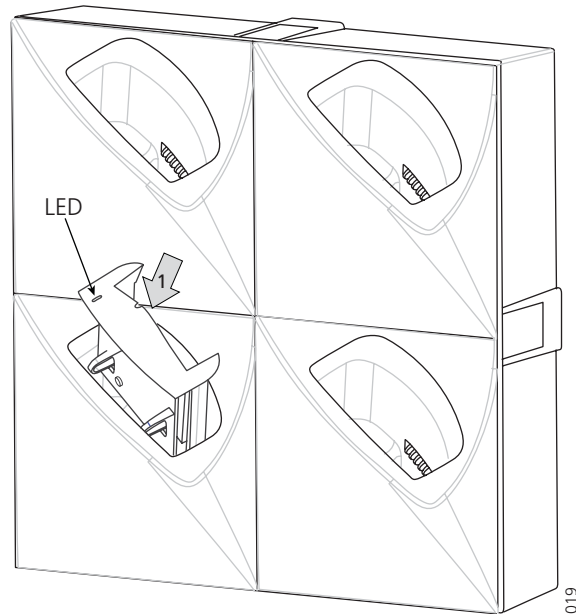

Figure 19. Adapter fitting for charging spare batteries.
- 2 Snap the adapter into position in the slot (1) as shown in figure 19.